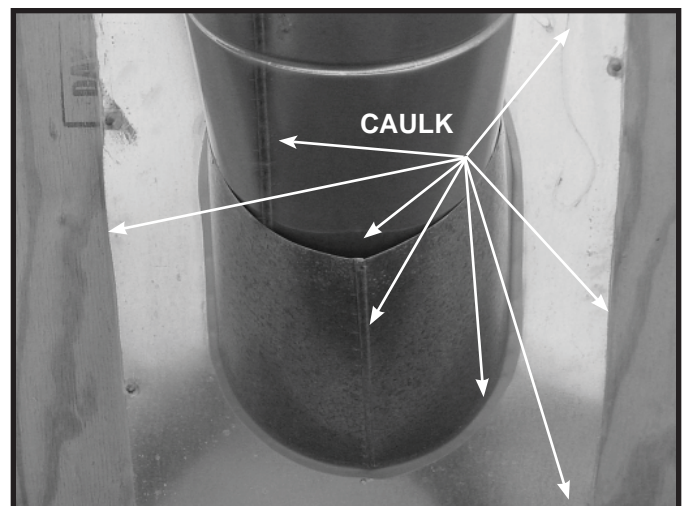

Figure 10.12 Caulking
- Slide the roof flashing over the pipe sections extending through the roof as shown in Figure 10.12.